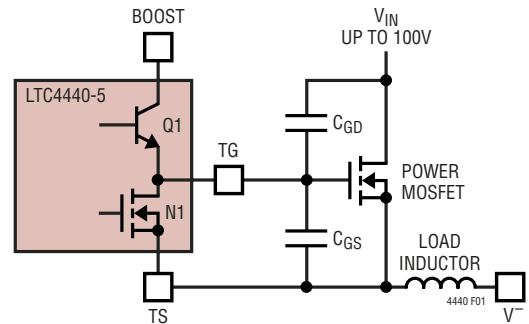

Figure 1. Capacitance Seen by TG During Switching
A simplified version of the LTC4440-5's output stage is shown in Figure 1. The pull-down device is an N-channel MOSFET (N1) and the pull-up device is an NPN bipolar junction transistor (Q1). The output swings from the lower rail (TS) to within an NPN  $V_{BE}$  ( $\sim 0.7V$ ) of the positive rail (BOOST). This large voltage swing is important in driving external power MOSFETs, whose  $R_{DS(ON)}$  is inversely proportional to its gate overdrive voltage ( $V_{GS} - V_{TH}$ ).